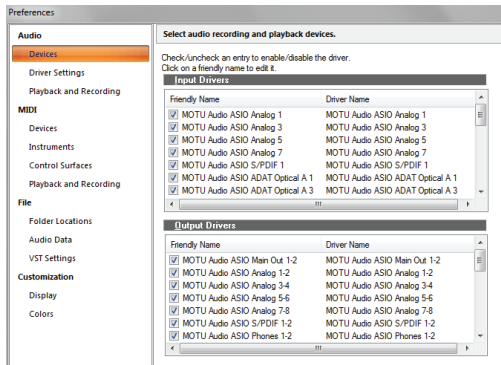

Figure 7-8: Enabling inputs and outputs in SONAR.
- 5 Check the 896mk3 Hybrid inputs and outputs that you wish to use and uncheck the ones you don't, as shown in Figure 7-8 on page 61.